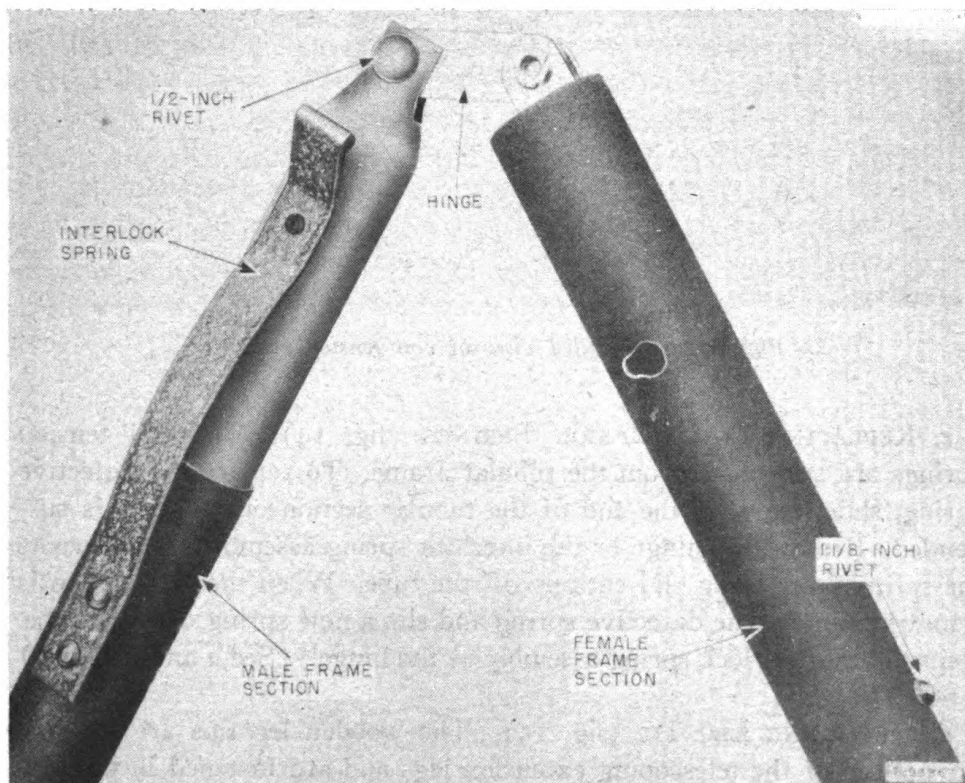

Figure 13. Detailed view of hinge.
b. REPLACING HINGES (fig. 13). The hinges are located between tubular sections of the frame and are used to hold two mating sections together while they are folded for packing. To replace a hinge, proceed as follows:
(1) Cut off or punch out the  $1\frac{1}{8}$ -inch rivet that retains the hinge inside the female section of the tubular frame.